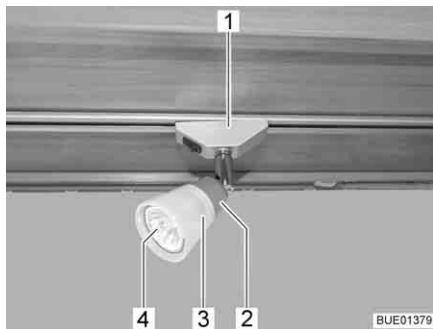

Fig. 228 Halogen spotlight (movable)
- Turn the halogen spotlight (Fig. 228,1) by 90° and remove from rail.
- Turn the lamp shade (Fig. 228,3) in an anticlockwise direction.
- Withdraw lamp shade complete with halogen bulb (Fig. 228,4) carefully from the holder (Fig. 228,2).